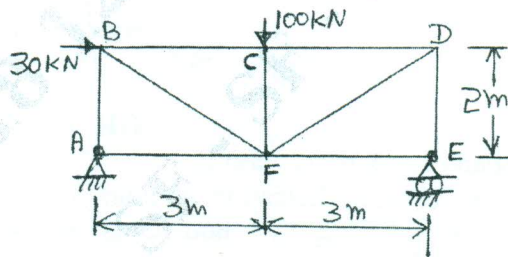

Fig.Q2(c)
- c. Determine the force in the members CD, DF, EF and CF for the pin jointed plane truss as shown in Fig.Q2(c) by the method of sections. (07 Marks)